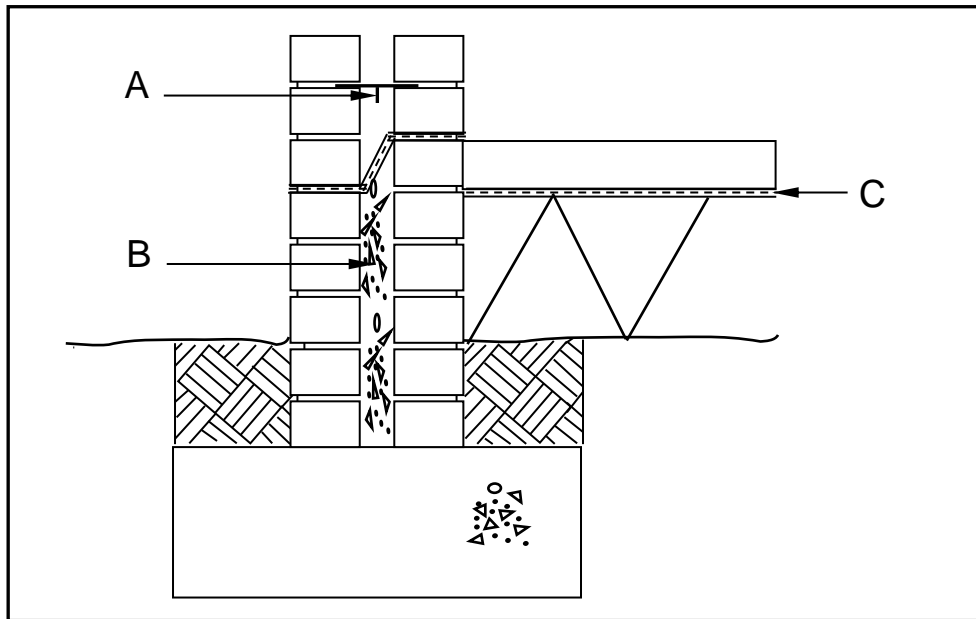

FIGURE 2.10
2.10 FIGURE 2.10 below shows a sectional view of an external wall.
- 2.10.6 Give the minimum distance of the opening in the wall in FIGURE 2.10. (1)